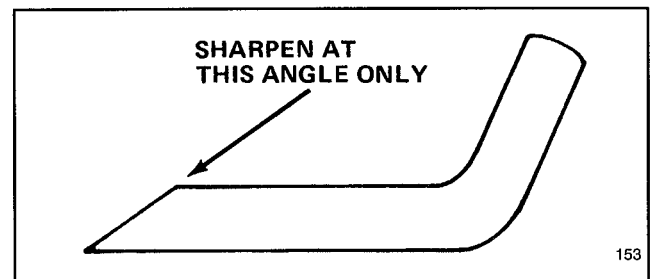

Figure 17
**6. SHARPENING BLADE**—Using a file, sharpen top side of blade (side facing mower housing) and maintain original cutting angle (Fig. 17). The blade will remain balanced if the same amount of material is removed from both cutting edges.